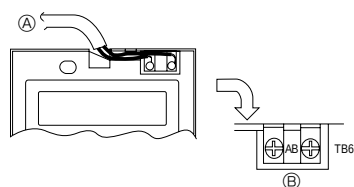

Fig. 2-3
2) Connecting procedures (Fig. 2-3)
- ① Connect the remote controller cable to the terminal block.